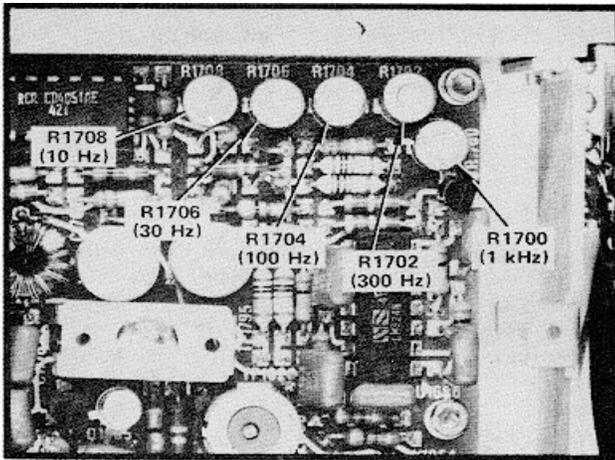

Fig. 4-18. Bandwidth adjustments for Variable Resolution Amplifier.
g. ---Calibrate the resolution bandwidth (6 dB down) for the 1 kHz to 30 Hz RESOLUTION positions by decreasing the resolution bandwidth and FREQUENCY SPAN/DIV settings sequentially and adjusting the respective bandwidth with R1700 (1 kHz), R1702 (300 Hz), R1704 (100 Hz), and R1706 (30 Hz). See Fig. 4-18 for adjustment locations.
h. --- Switch the RESOLUTION to 10 Hz. Adjust the 10 bandwidth with R1708 (Fig. 4-18) so the bandwidth, 70 down, is 100 Hz \pm 20 Hz.